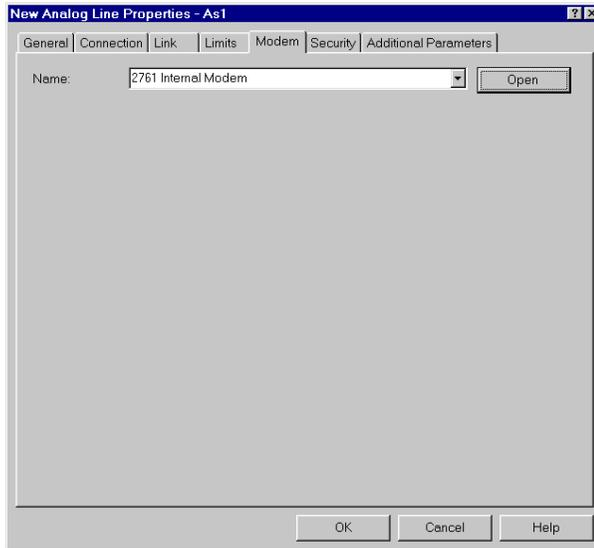

Figure 28. Properties: Modem display
8. Click the **Modem** tab (Figure 28 on page 40).